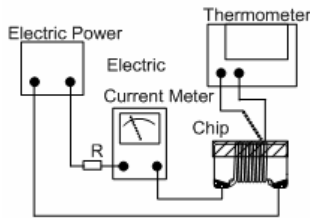

Fig. 6.3.4-1
- d. Definition of Rated Current (I_r): I_r is direct electric current as chip surface temperature rose just 20°C against chip initial surface temperature (T_a) (see **Fig. 6.3.4-2**).